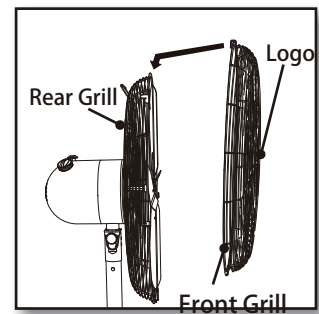

Figure 12
14.Center the front grill by aligning the logo on the grill hub so it is horizontal and parallel to the floor. Figure 12.